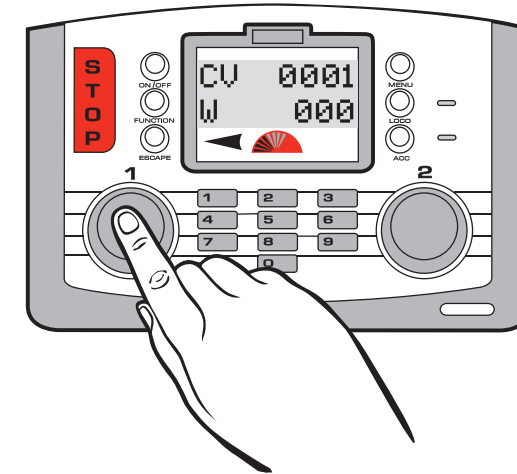

Fig 1
7. Press **Control I**. Screen shows "**CV 0001 W 000**". See Fig 1.